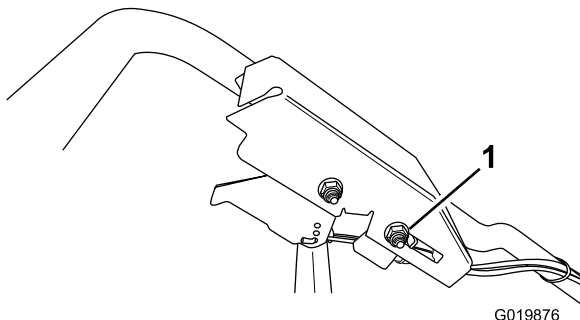

Figure 38
2. Loosen the cable-support nut (Figure 38).